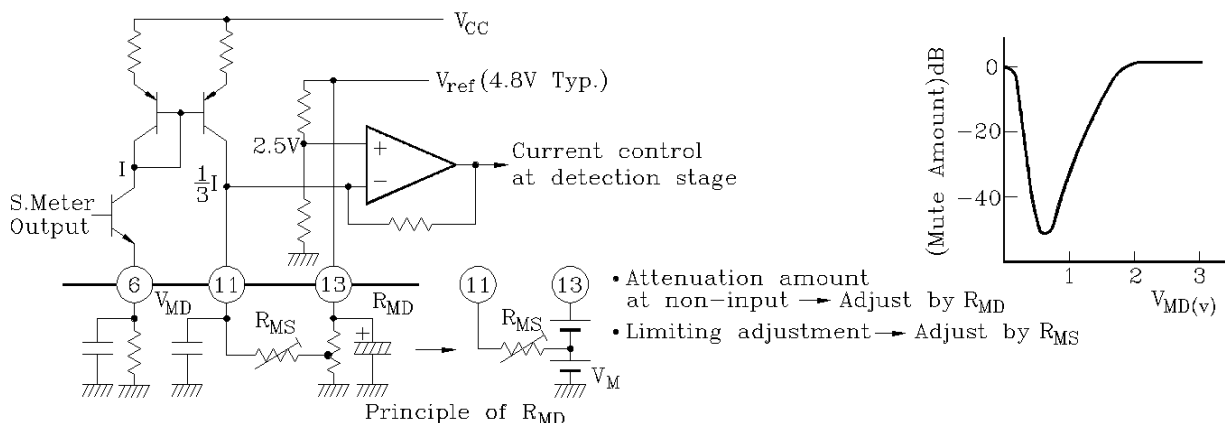

Fig.4
The muting circuit of the KIA6029Z is constituted of an AF amplifier where gain is varied by control voltage and a control voltage generation circuit (Mute Drive) proportional to a signal meter output. Figure 4 shows the outline of the muting circuit. The signal meter output is converted into the current by $10k\Omega$ externally provided on ⑥ pin and $1/3$ current is output in ⑪ pin in 1:1/3 current mirror circuit. This current is converted into a control voltage by R_{MS} and V_H connected outside.